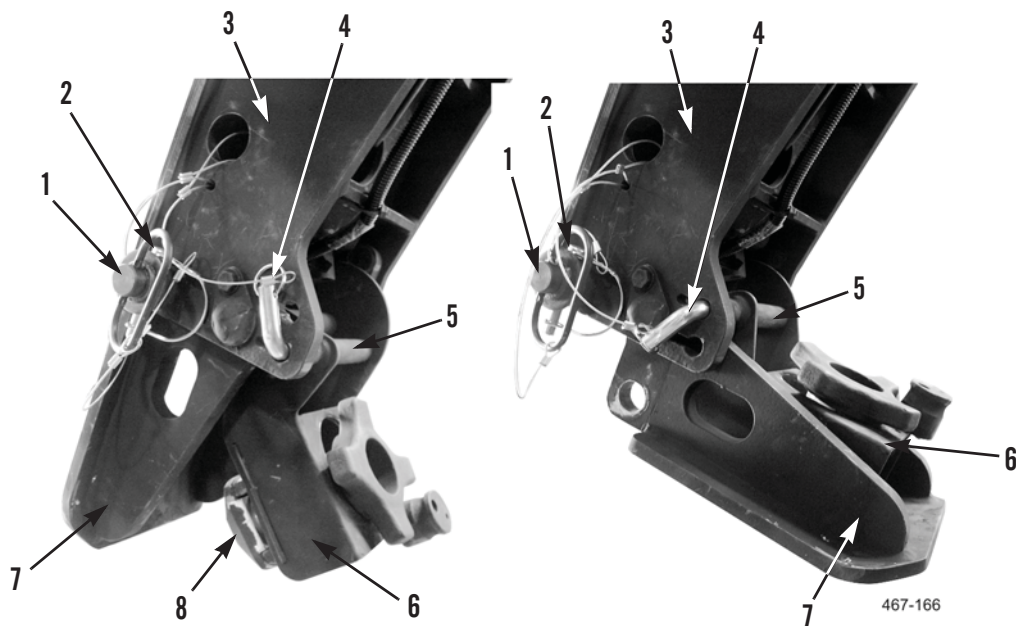

Figure 5. Twistlock Assembly (Container to Flatrack).
1. While supporting twistlock (Figure 5, Item 6) remove locking pin (Figure 5, Item 4) from rear slider bed (Figure 5, Item 3).
2. Rotate twistlock (Figure 5, Item 6) up until locking tube (Figure 5, Item 5) aligns with upper locking hole in rear slider bed (Figure 5, Item 3) and insert locking pin (Figure 5, Item 4).
3. Remove R clip (Figure 5, Item 2) from rear slider bed (Figure 5, Item 3).
4. While supporting twistlock housing (Figure 5, Item 7), remove locking pin (Figure 5, Item 1).
5. Rotate anvil (Figure 5, Item 8) until aligned with opening in twistlock housing (Figure 5, Item 7).
6. Rotate twistlock housing (Figure 5, Item 7) up until it engages with twistlock (Figure 5, Item 6) and install locking pin (Figure 5, Item 1)
7. Install R clip (Figure 5, Item 2) in rear slider bed (Figure 5, Item 3).